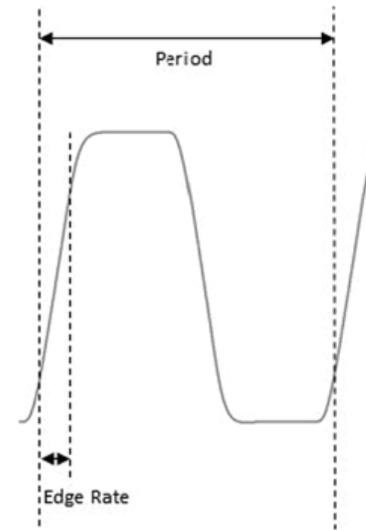

Figure 9: Edge-rate-to-period ratios that are too small can produce high frequency harmonics and EMI.
A high speed signal with fast rising and/or falling edges and with a small edge-rate-to-period ratio, shown in figure 9, carries higher frequency harmonics, this not only increases the risk of radiated emissions, but also causes signal integrity (SI) issues.